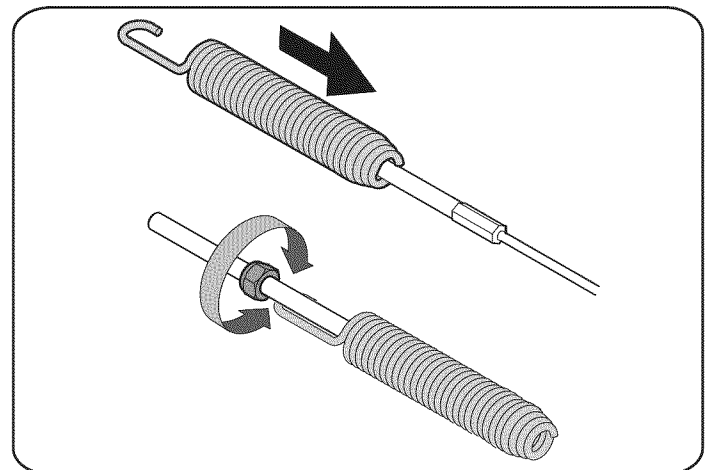

Figure 13
2. Slide the spring up the cable to expose the cable coupler threads and lock nut. Refer to Fig. 13.